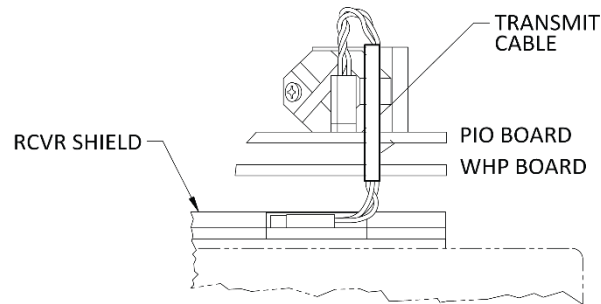

Figure 54. Transmit Cable
3. Note the orientation of the transmit cable connector as it is plugged into the PIO board and to the Receiver board (see Figure 54).